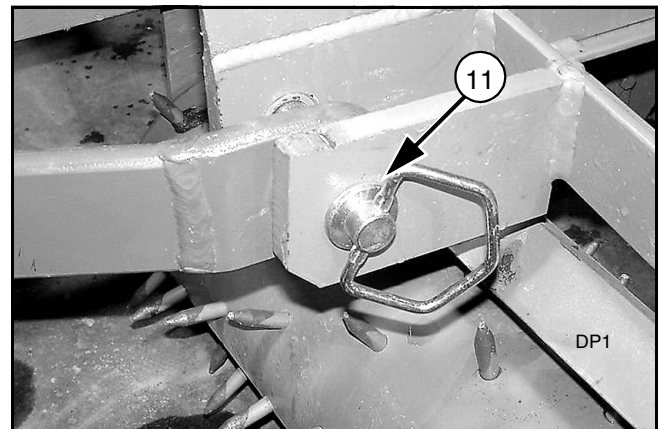

Figure 4. Lift Arms Attached to Overseeder
1. Attach the tractor's lower lift arms to the overseeder and secure with mounting pins (11) and klik pins. See Figure 4.